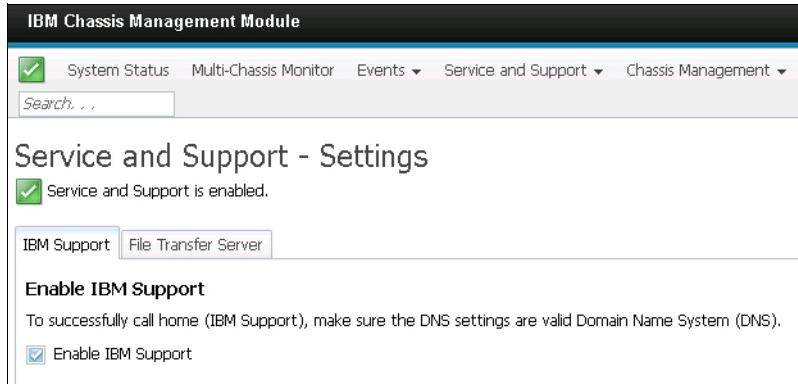

Figure 7-24 Lenovo Support enabled on CMM
- Click **Apply** to enable Lenovo Support and acknowledge any confirmation notices as they appear. Lenovo Support is now enabled, as shown in Figure 7-24.